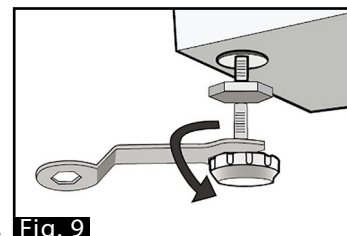

Fig. 9
1. Make sure the legs are flush with the washer. Use a wrench to loosen the lock nut, turn the leg until it is flush with the washer and tighten (Fig. 9).